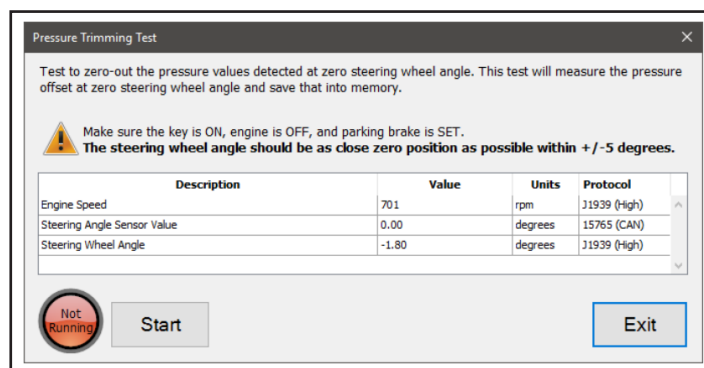

Figure 2 – Coil Polarity Check
1. Select *Coil Polarity Check* and press *Enter* or the *Start* icon. Test dialog will be displayed. See *Figure 2*.